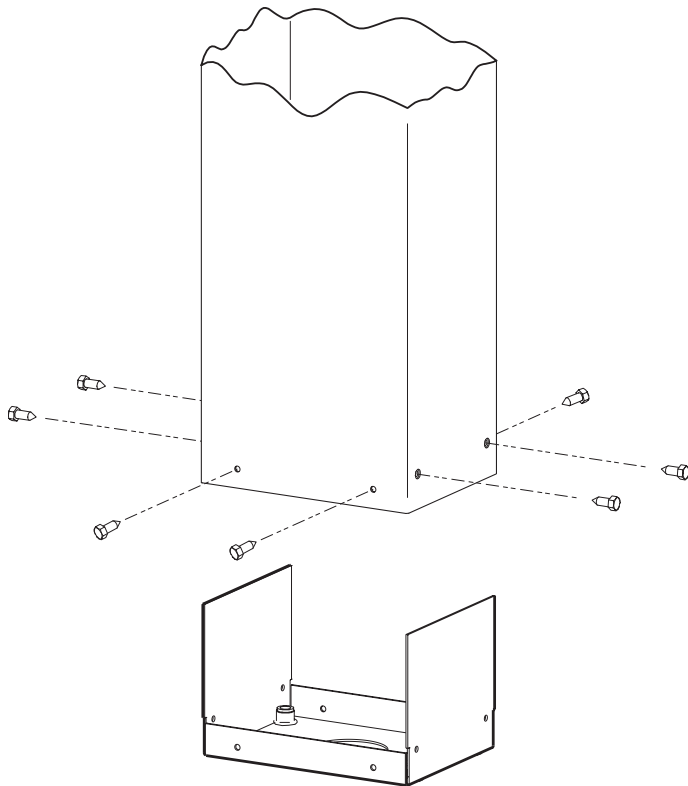

Figure 1
1. For Stainless Steel Posts attach lower bracket assembly to post with eight Hex Head #10-1/2" Self Drill screws. For Black Posts, secure lower bracket assembly to post with eight 10 x 1/2 Hex Head screws. See Figure 1. Use black screws for black posts and stainless steel screws for stainless steel posts.